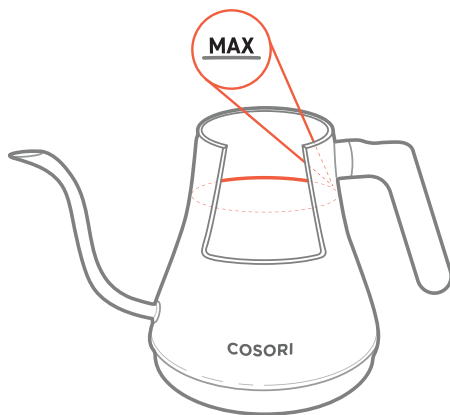

Figure 1.0
3. Fill the kettle with water to the "**MAX**" line [Figure 1.0], then put the lid on the kettle. Press firmly to make sure the lid fits securely.